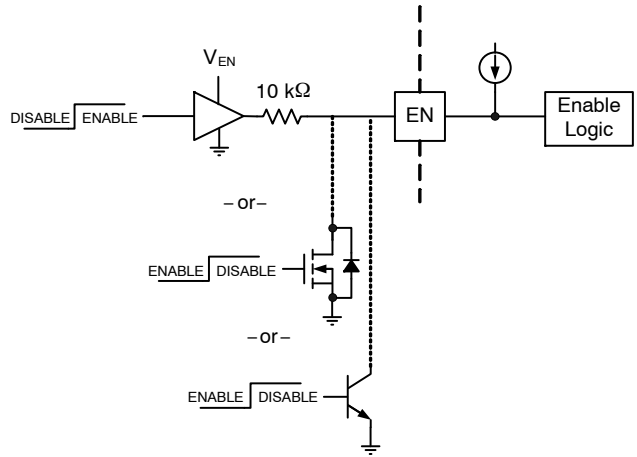

Figure 18. Enable Circuits: Push-Pull, Open-Drain, or Open-Collector
The device has an enable pin (EN) with internal 50 μA pullup current. This gives the user the option of driving EN with a push-pull or open-drain/collector enable signal. When driving EN with an external logic supply a 10 kΩ series current limiting resistor must be placed in series with EN. See Figure 18. The maximum enable threshold is 3.4 V. If no external drive voltage is available, the internal pullup can be used to enable the device, and an open drain/collector input, such as a MOSFET or BJT can be used to disable the device. A capacitor connected between EN and ground can be used with the internal pullup current source to provide a fixed delay to turn-on and turn off. See Equation 1.